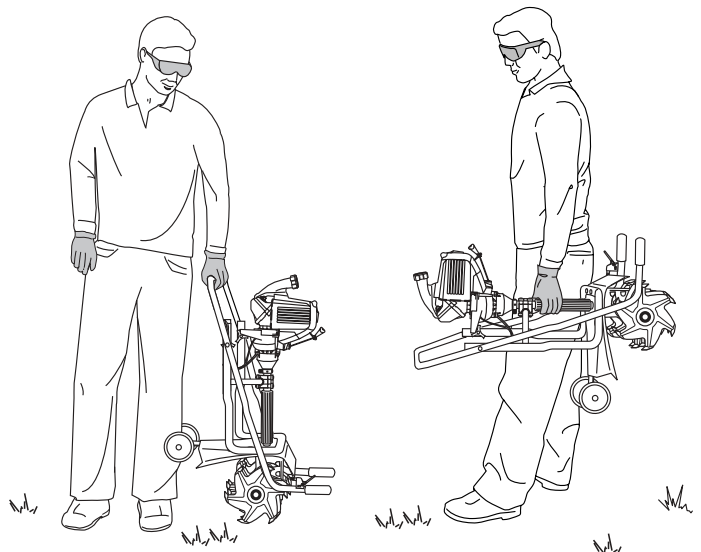

Fig. 36
4. Stand between the handlebars and grasp the center of the bar to use as a carrying handle (Fig. 36).